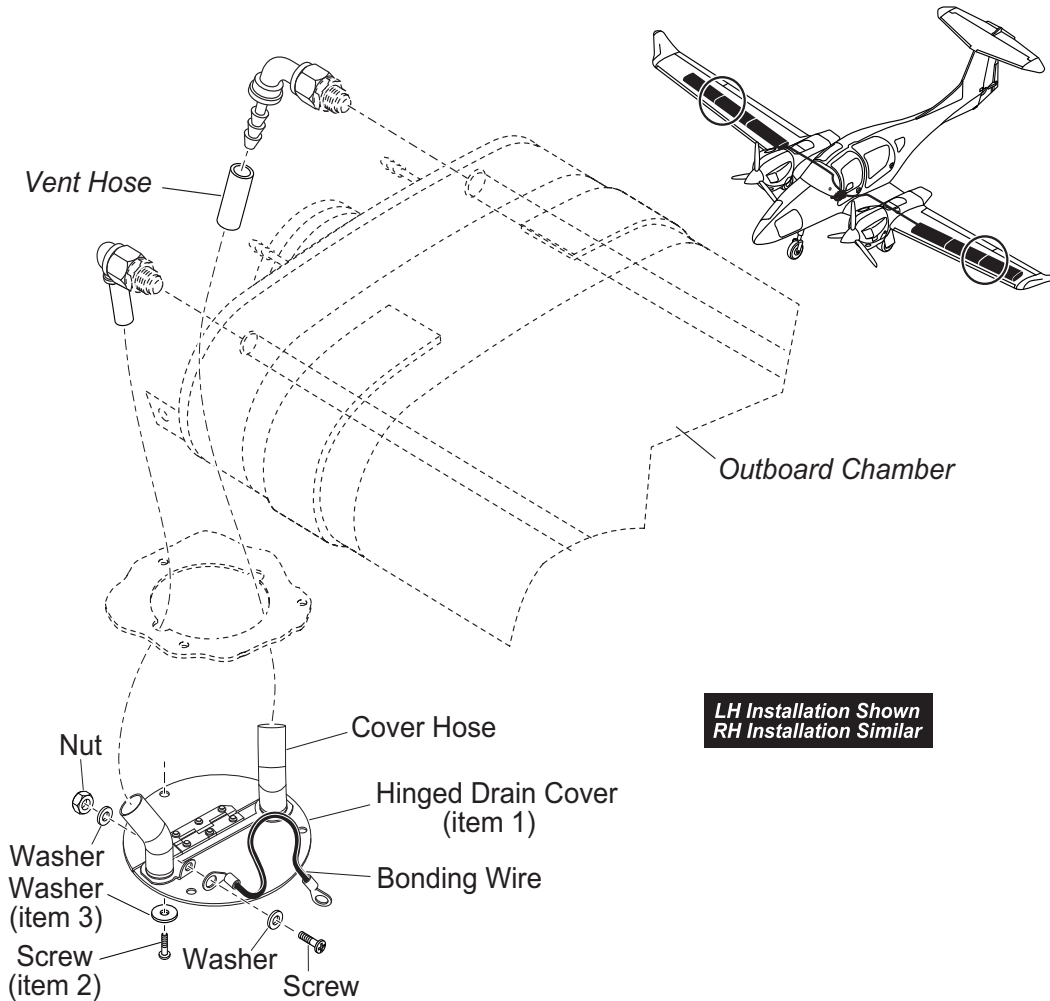

Figure 1. Hinged drain cover installation.
2. Install the hinged drain cover (refer to Figure 1):
- ii. Attach the larger part of the cover to the bottom of the wing using two screws (item 2) and two washers (item 3). Ensure the cover hoses and vent hoses engage without kinking.
- iii. Double check that the cover hoses and vent hoses are engaged and that there are no kinks, and attach the hinged part of the cover to the bottom of the wing using a screw (item 2) and washer (item 3).